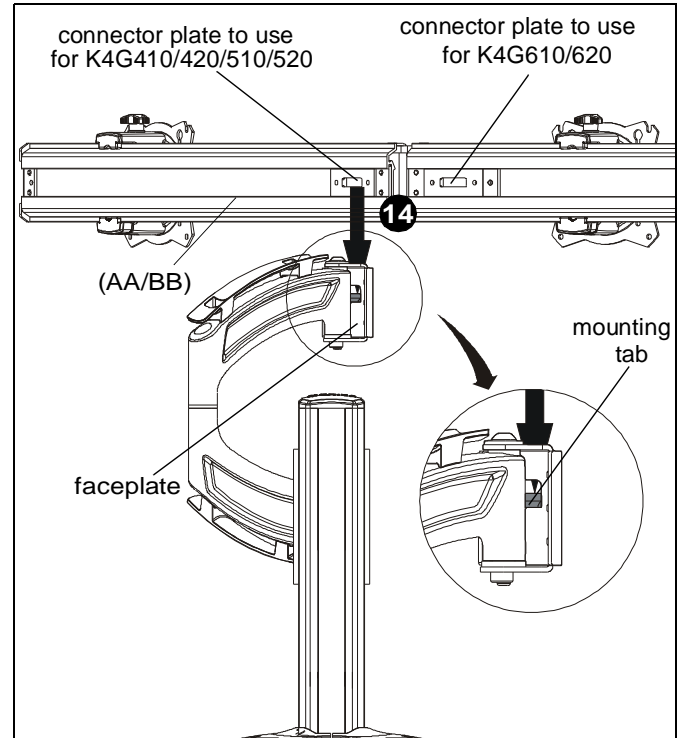

Figure 5
14. Hang right and left array arms (AA and BB) onto column arm (F or G) faceplates using the mounting tab on the faceplate. (See Figure 5)
**IMPORTANT !** : Connect faceplates to the outer array arms as shown in Figure 5 when installing K4G410/420/510/520 mounts. Connect faceplates to the inner array arms when installing K4G610/620 mounts. Minor adjustments to the connection location may need to be made in order to compensate for sagging. See Display Leveling Section for details.